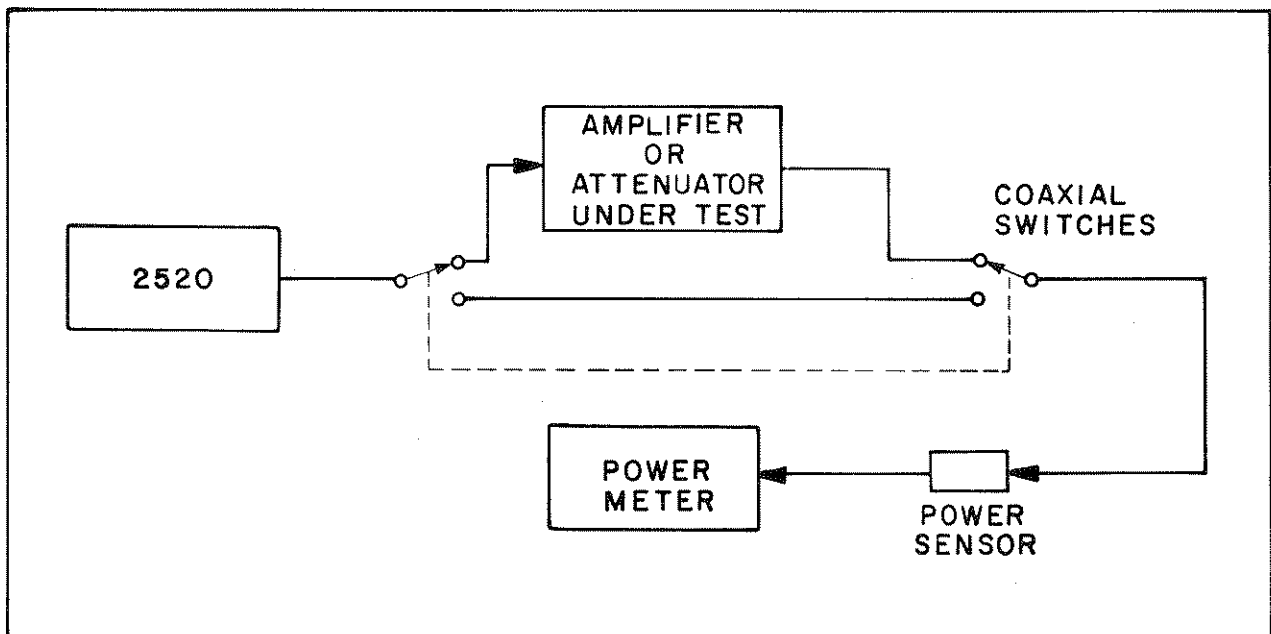

Figure 4-1. Attenuator and Amplifier Calibration
2. Technique. Refer to Figure 4-1 for the setup. The power meter is used for the comparison of two measurements only, which are very close to each other (within 0.1 dB), and therefore need not be calibrated at all. The only requirement of the meter is that it is linear over that 0.1 dB, and that it has adequate resolution.
4-4. AMPLIFIER CALIBRATION. Amplifiers that operate at 30 MHz can be tested for gain and compression point by connecting them as shown in Figure 4-1. The technique is similar to calibrating attenuators as shown in the previous section. That is, the amplifier gain is equal to the difference in 2520 settings, plus the correction factor as shown in the Attenuator Calibration example above, where the two settings are for the "DUT in" case and the "DUT out" case. As for the attenuator case above, the power meter is used for comparison of two measurements only and does not enter into the calculation.